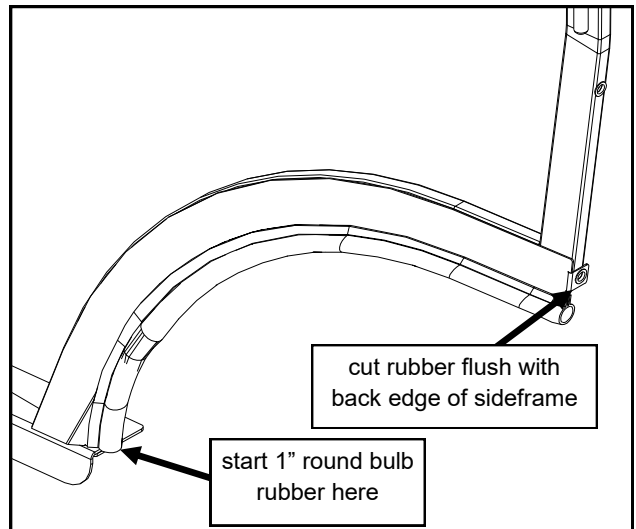

Fig. 5.2 (1" round bulb rubber installed - left)
5.2 Starting at the floorboard of the left sideframe, install the 1" round rubber provided onto the sideframe, continue up the sheetmetal edge of the sideframe. Cut the rubber flush with the inside rear flange of the fender contour. See fig. 5.2.